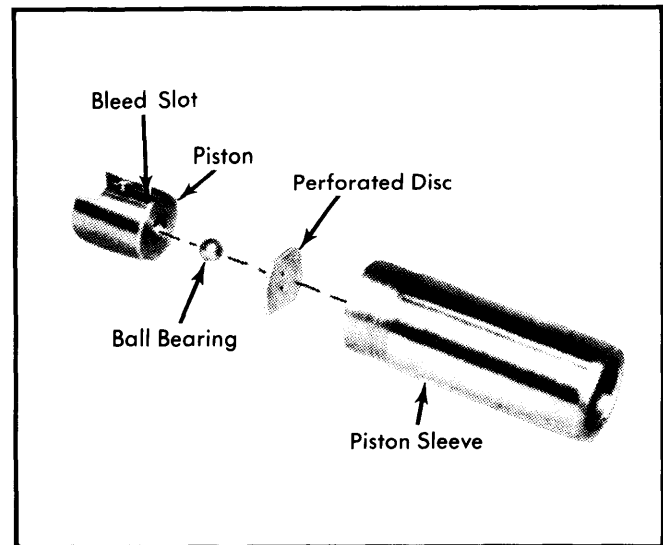

Fig. 11 Exploded View of Chain Tensioner Piston Assembly
3) Reassemble sleeve, perforated disc, ball bearing and piston, making sure perforated disc does not block bleed slots (See Fig. 11)